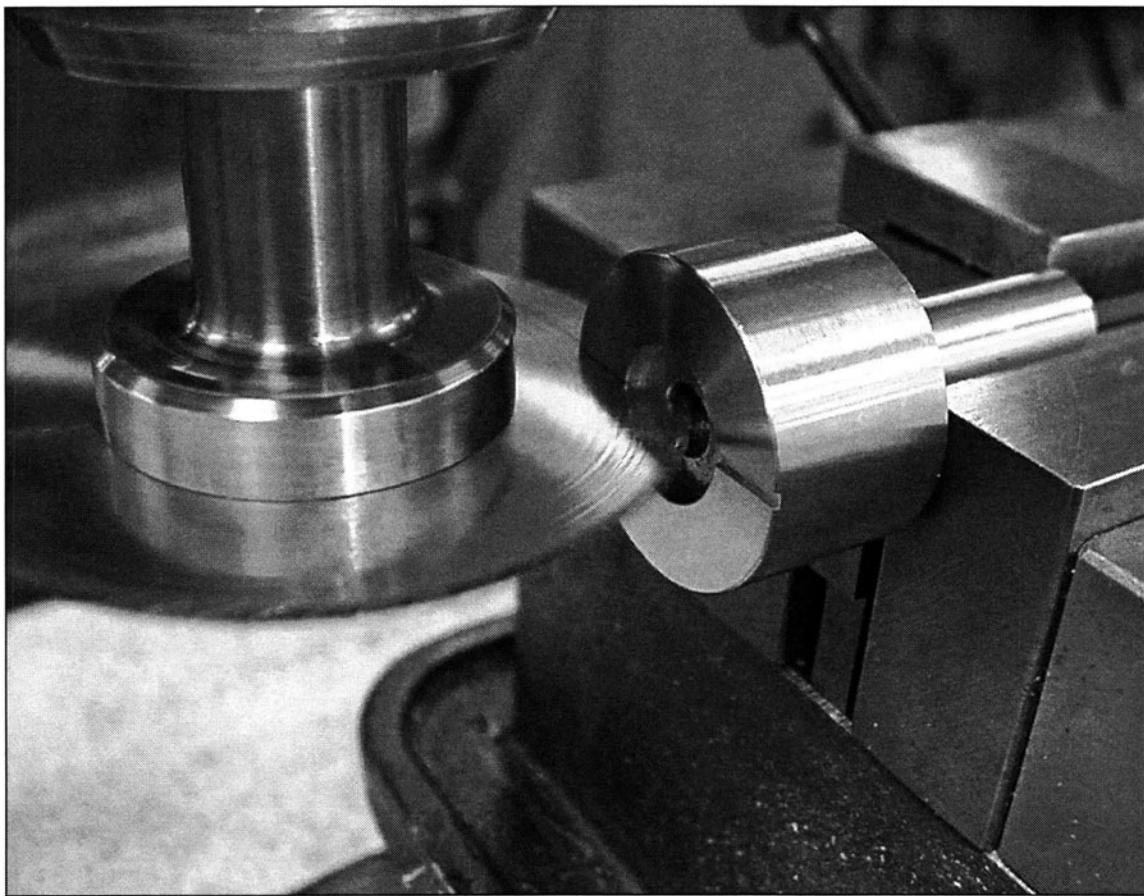

FIGURE 6-7 A shallow cut was made on the face of this part to act as guide or track before making the deeper cut.
7. Make a shallow cut first when using thin slitting saws. (See Fig. 6-7)